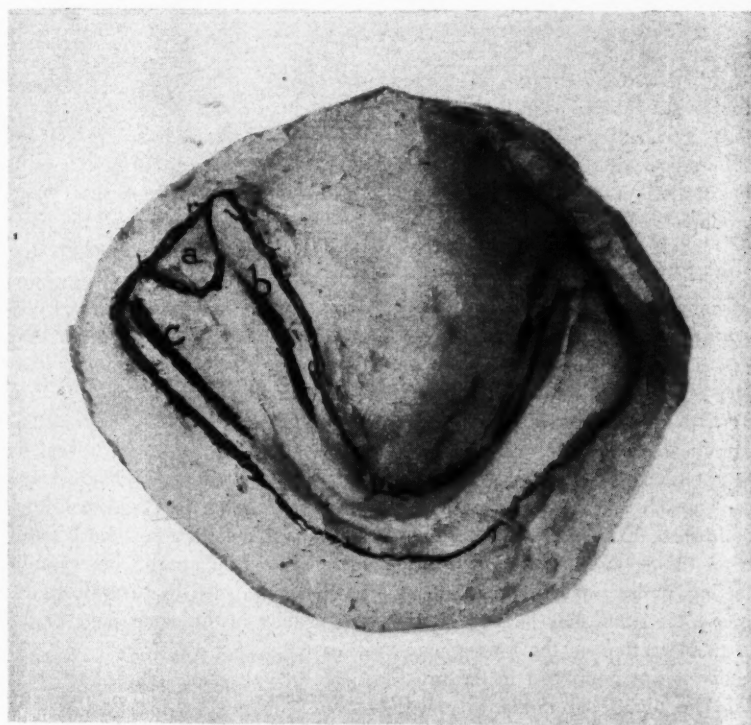

Fig. 7—Section of preliminary cast showing: a, retromolar pad; b, mylohyoid ridge; c, external oblique ridge.
The impression should be examined carefully (Fig. 6). Any accepted technique demands that the following landmarks be prominent in the impression:3 (1) the entire retromolar pad of tissue; (2) the face of the ramus; (3) the external oblique ridge; (4) the mylohyoid ridge; (5) the muco-buccal and muco-labial tissue folds; (6) the floor of the mouth, and (7) the entire ridge crest (Figs. 7 and 8). If most of these landmarks have not been reproduced in the im-